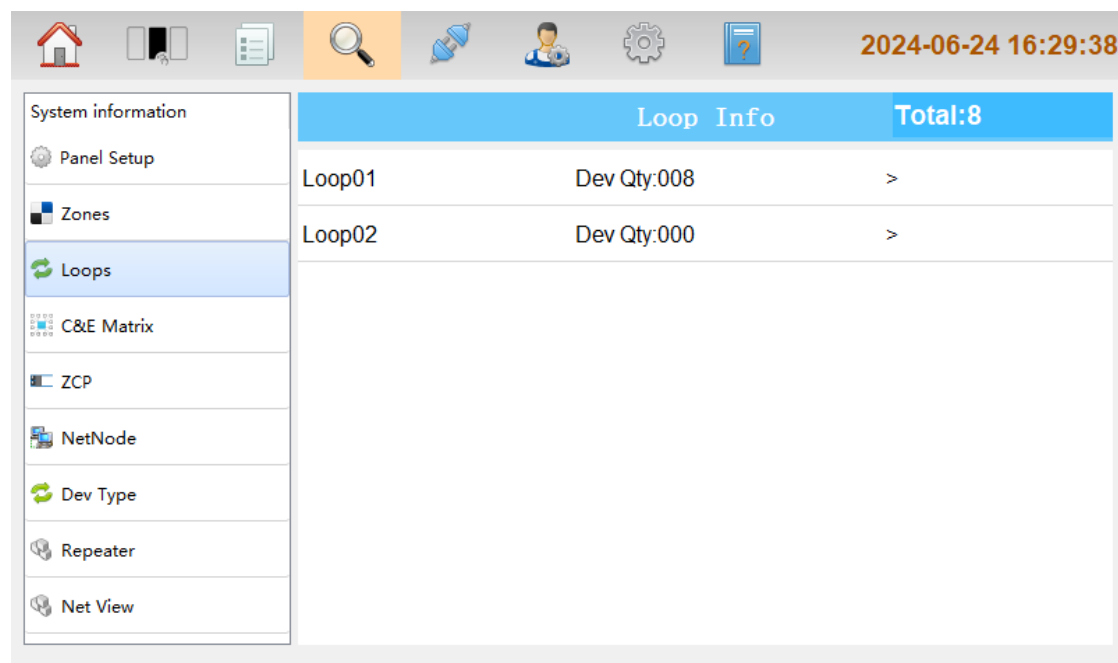

Fig. 4.14
- Loops: clicking **Loops** enters the screen for setting loop devices. The right screen shows all the loops of the FACP, quantity of devices of each loop, as shown in the figure below Fig. 4.14.